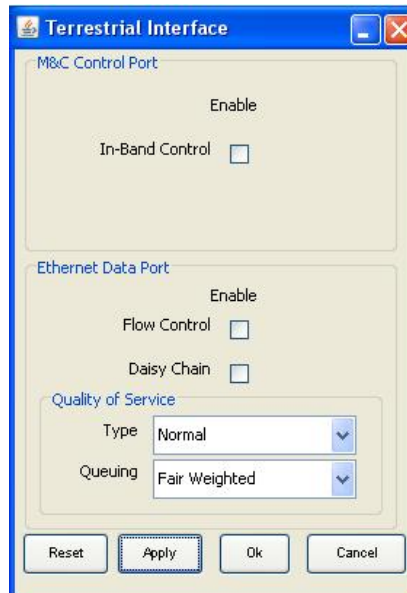

Figure 7.4.2-1 Terrestrial Interface
The Terrestrial Interface window allows access to setup Control port and Data port parameters. Ethernet controls like flow control and Quality of Service are supported. QoS offers the ability to provide different priority to different applications, users, or data flows to guarantee a certain level of performance to a data flow. Refer to Figure 7.4.2-1.
- **DAISY CHAIN MODE:** Daisy Chain Mode can be used whenever a single site is demodulating more than 4 share groups as is commonly seen in Hub and Spoke applications or in larger MESH networks with 5 or more share groups. This mode is used where one (1) MDX-420 is transmitting into a share group and demodulating 1-4 share groups and there are additional MDX-420 units that are only used to demodulate additional share groups (not transmitting). Looking at Figure 7.4.2-2, the proper way to eliminate layer 2 issues such as spanning tree or endless loop when multiple MDX420 units are used is to connect the devices in the following manner. When Daisy Chain Mode is selected on a unit, traffic entering Port J4 will be forwarded to Port J3 and MAC learning and aging will be disabled on Port J4. By doing this none of the destination MAC address that come in on Port 4 will be associated to either the LAN or WAN side of the link.